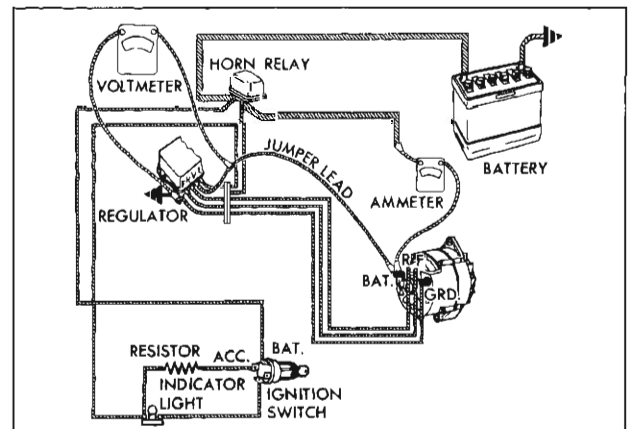

Fig. 20—Checking Voltage Setting
1. Make connections as shown in Figures 20 and 21